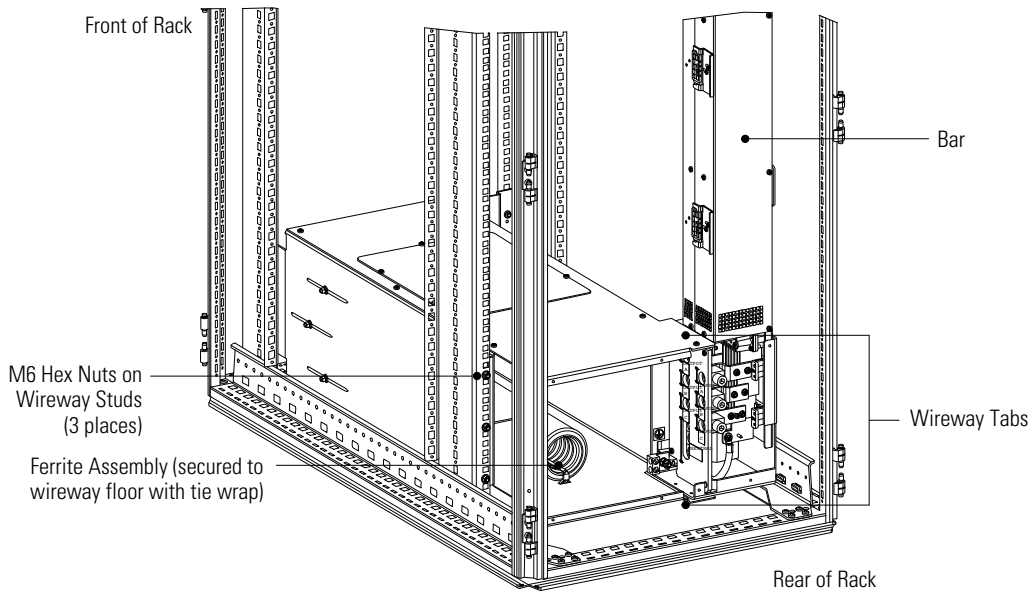

Figure 4. Ferrite and Bar Placement
4. Install an M6 hex nut onto each of the three wireway studs to secure the wireway to the rear of the rack. Install the first stud in the fourth hole location from the bottom. Do not tighten the nuts. Figure 4 shows the nuts installed.
9. Place the ferrite assembly on the floor of the wireway and secure with the supplied tie wrap. Loop the tie wrap through both attachment sites on the wireway floor and through the ferrite assembly. See Figure 4.
11. Place the bar in the rack as shown in Figure 4.
NOTE The bar can rest on the floor of the rack until secured in place. After complete installation, the bar will be secured to the rack and wireway as shown in Figure 4.
NOTE Verify that the bar is secure as shown in Figure 4. The sheetmetal at the top and bottom of the of the terminal block assembly should fit between the wireway tabs.